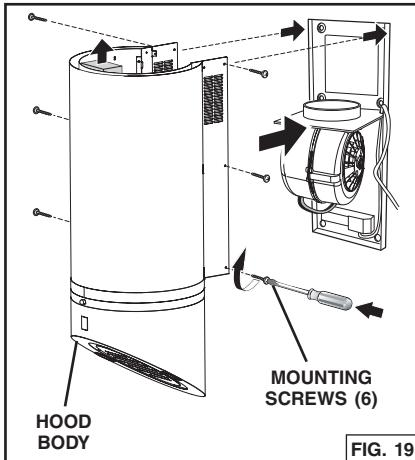

FIG. 19
9. Take the hood body slide it in from the front until it touches the wall, then push the body upward to the ceiling at desired location. Secure with the six (6) mounting screws that were removed previously in Step 3. Fig. 19.